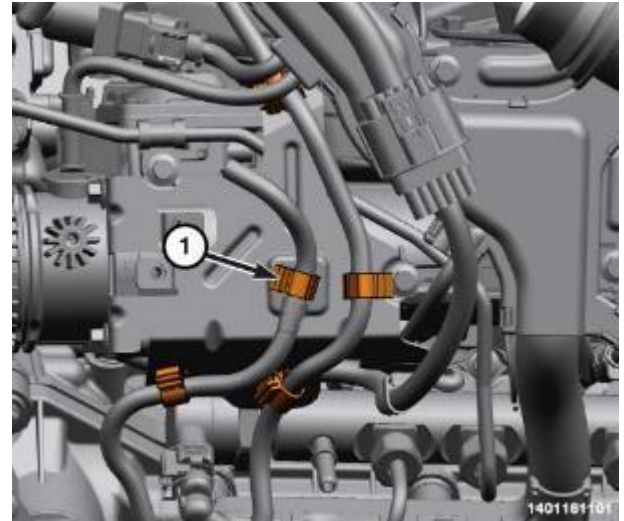

Figure 70 – Hose Retainers
- 121. Attach the retainers (1) securing the fuel return hose to the fuel line support bracket (Figure 70).